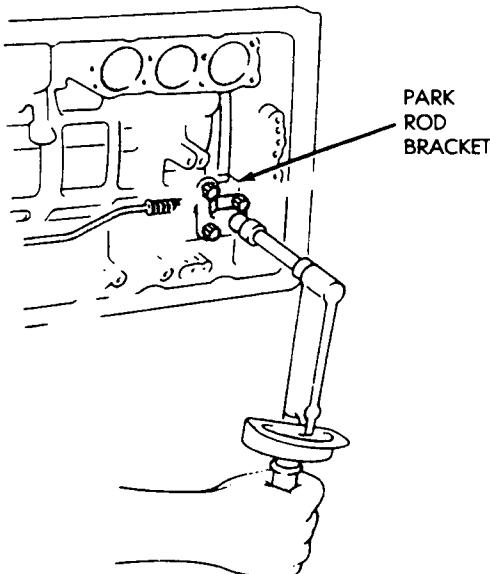

Fig. 36 Removing/Installing Park Rod Bracket
- (1) Remove valve body as outlined in this section.
- (2) Remove bolts attaching park rod bracket to case (Fig. 36).
- (8) Install park rod and bracket (Fig. 36). Tighten bracket bolts to 10 N·m (7 ft-lbs) torque.
- (9) Install valve body, oil screen and oil pan as outlined in this section.